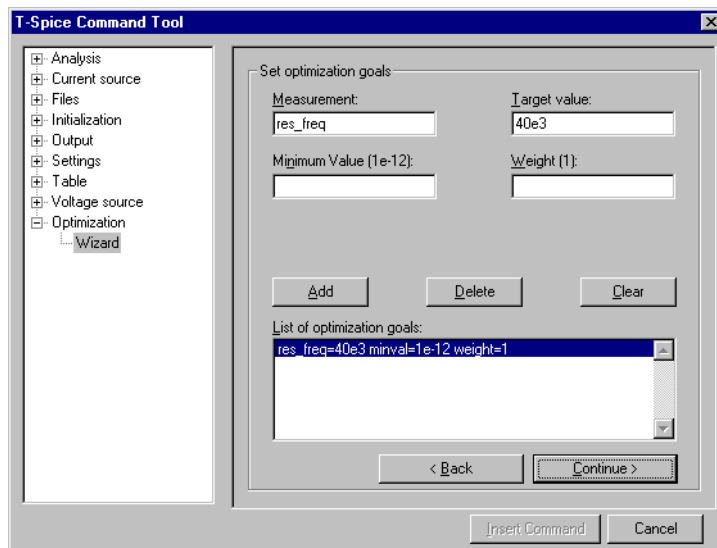

Figure 95: Customizing the optimization goals
- ☑ Set **Measurement** to *res\_freq* and **Target value** to **40e3**. Click **Add** to add these values to the **List of optimization goals** (Figure 95). When you finish, the **T-Spice Command** tool dialog will look like the following: